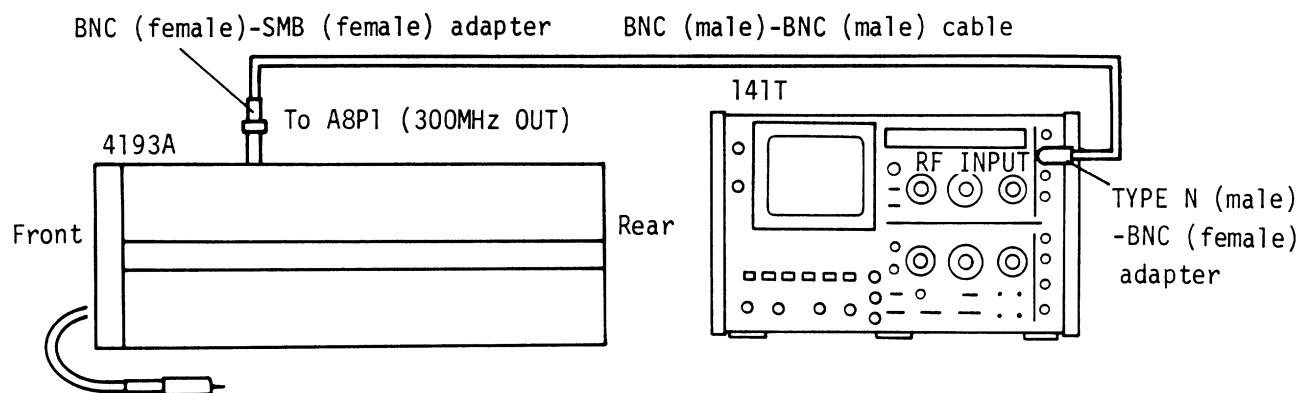

Figure 5-2. 300MHz BPF Adjustment Setup.
2. Connect the RF INPUT terminal of the spectrum analyzer to A8P1 (300MHz OUT) as shown in Figure 5-2.